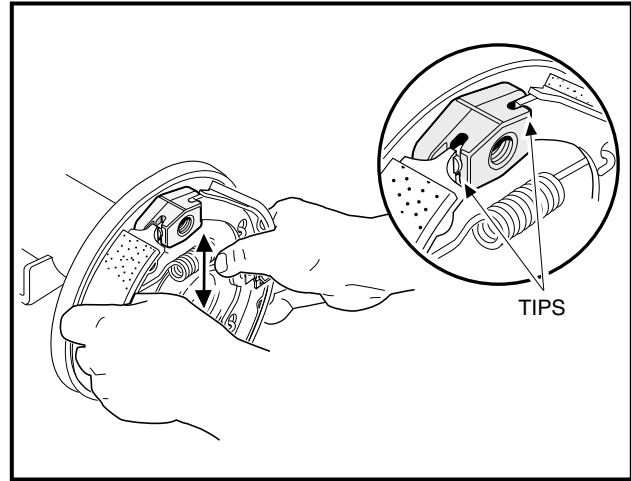

Figure 6-26 Position Shoes
5. After the shoes are installed, move them together up and down and side to side to make sure that they will easily slide approximately 1/4 to 3/8 inch (6.3 to 9.5 mm) without binding. Make sure the shoes are positioned vertically so the tips of the shoes are positioned flush with the top surface of the shoe mounting blocks as shown (**Figure 6-26, Page 6-13**).